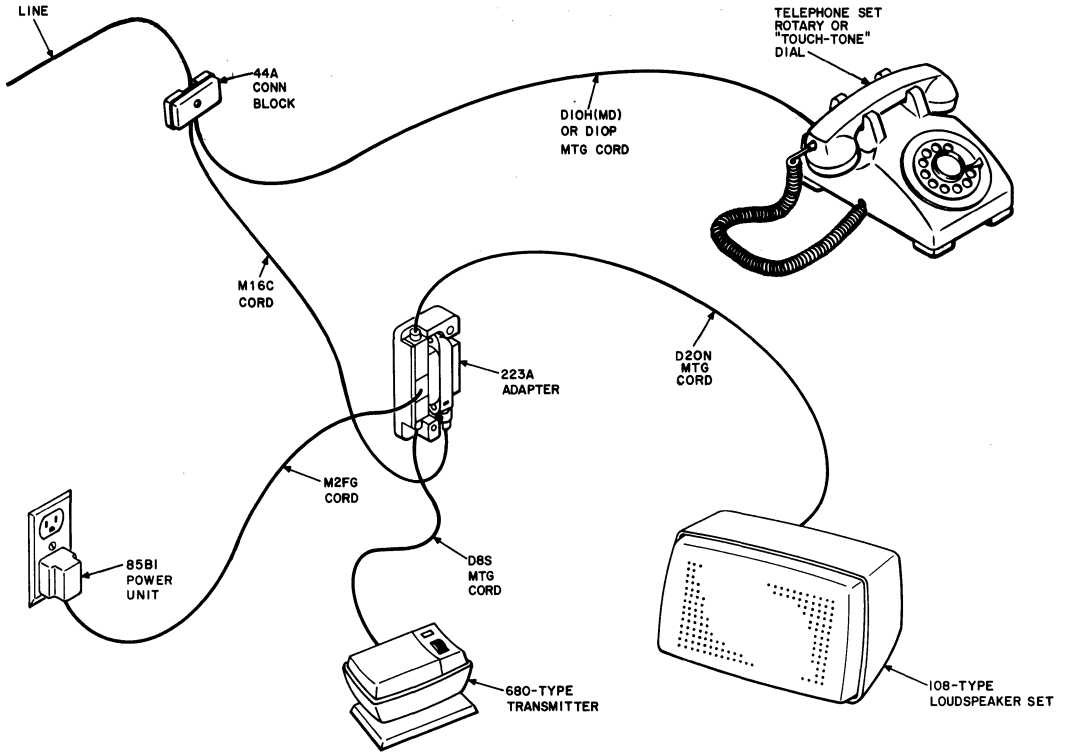

Fig. 1—Speakerphone Arrangement, 500S or 2500S Telephone Set
2.04 Power can be supplied by connecting 85B1 power unit as shown in Fig. 1 through 6.